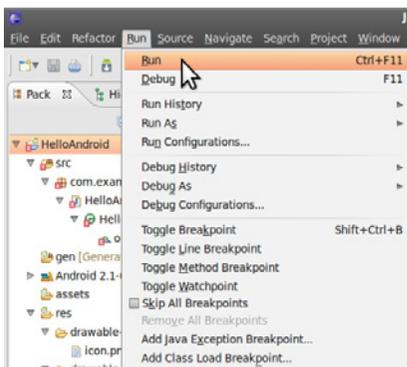

Figure 6-16. Running the project
8. Run the program by clicking the green Play button in the toolbar or by choosing Run → Run (Ctrl-F11), as shown in Figure 6-16.